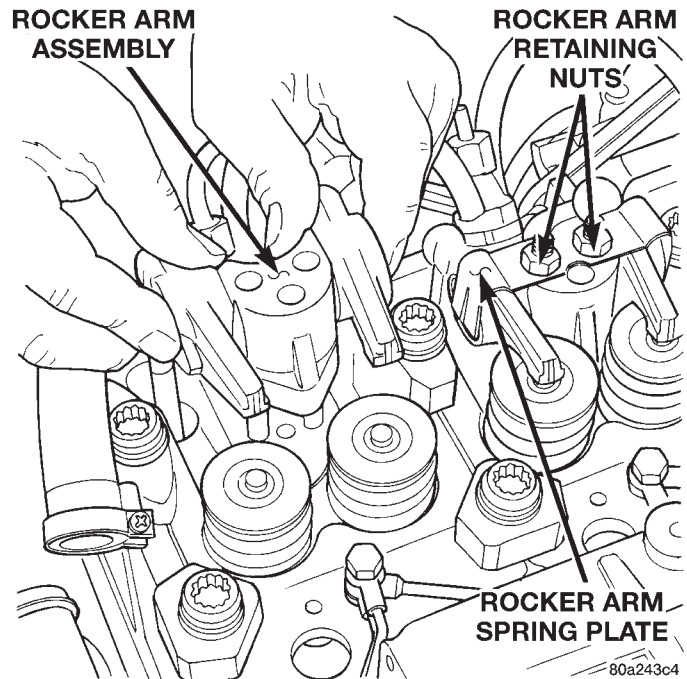

Fig. 21 Rocker Arm Retaining Nuts
(29) Remove the engine cylinder head cover.
(30) Remove rocker retaining nuts (Fig. 21).